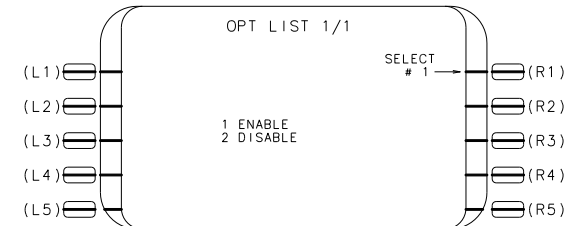

FIGURE 7
9. THE OPT LIST PAGE WILL APPEAR (REF FIGURE 7). PRESS 1 AND THEN PRESS ENTER.